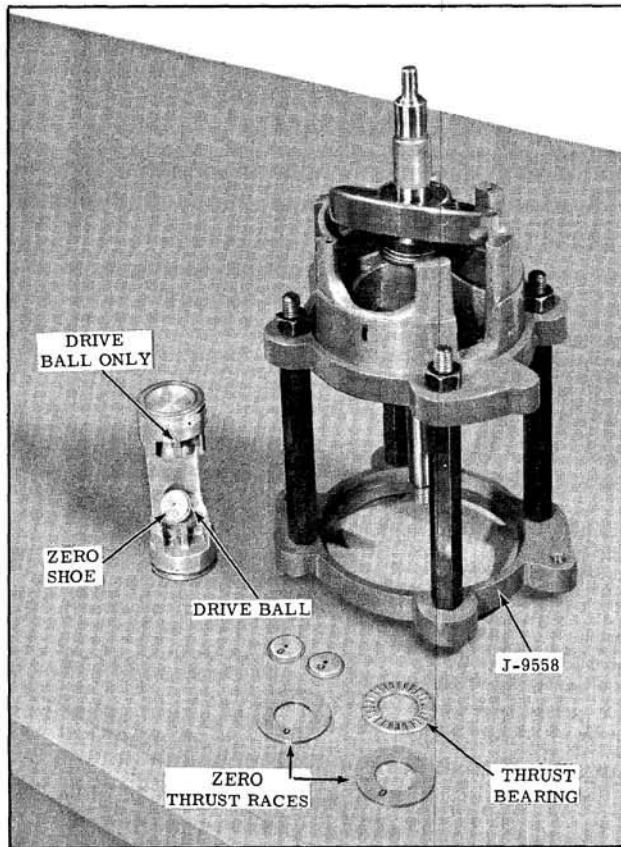

Fig. 14-128 Assembling Parts for Clearance Check
2. Position a zero thrust race, a thrust bearing and another zero thrust race over the front and rear ends of the compressor shaft. Retain bearings and thrust washers with clean petrolatum. Install shaft into front cylinder, threaded end of shaft down. (Fig. 14-128)